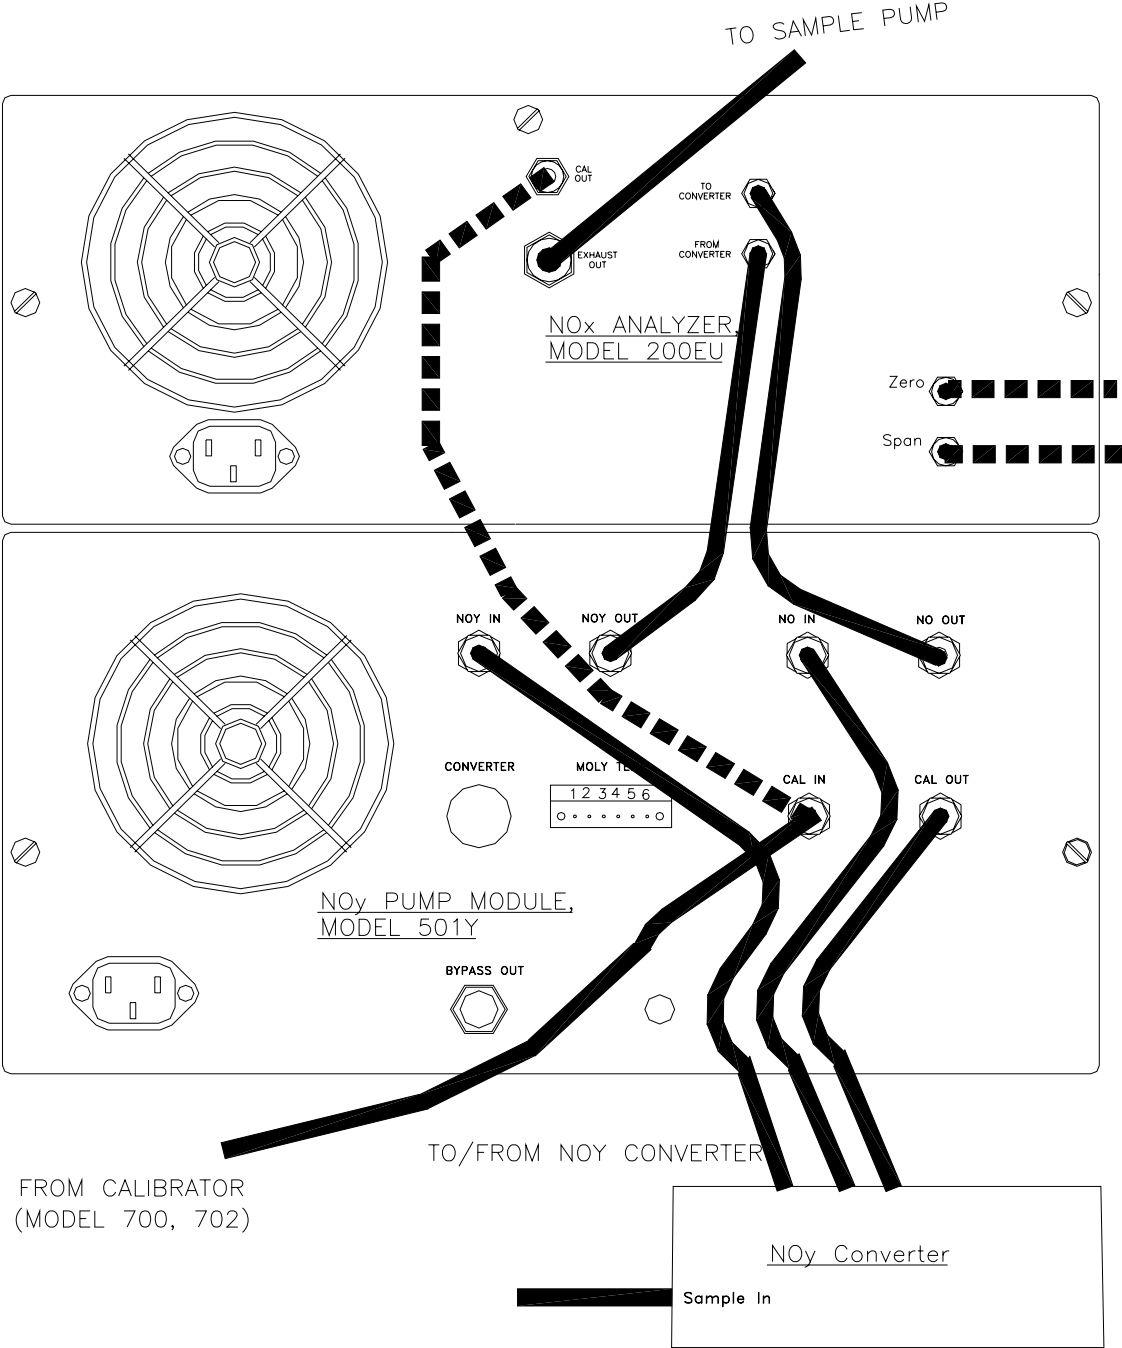

Figure 1.1 - Rear Panel Pneumatic Connections
4. Connect the electrical/pneumatic cable fittings to the rear of the Bypass Pump Chassis. Use the tags on each tube and Figure 1.1 to match up the correct tube with the rear panel bulkhead fitting. Please note that the dashed lines show optional Zero/Span Valve configuration connections.